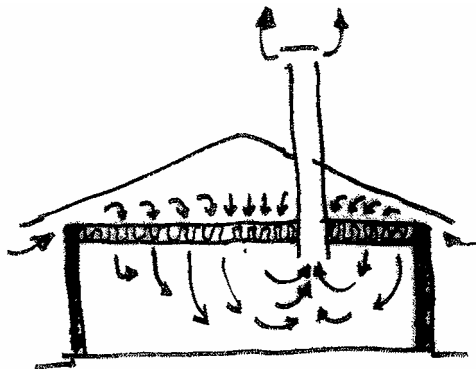

Figure 7.9 – Breathing ceiling
- ❖ **Ensure that ceiling insulation is placed without any interruption, and seal all wall penetrations.** *Fig7.9*